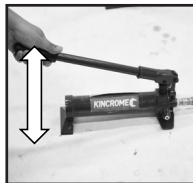

Fig.6
2. Using the handle (2), rapidly pump continuously 15-20 full strokes to purge air from the hydraulic system (Fig 6).